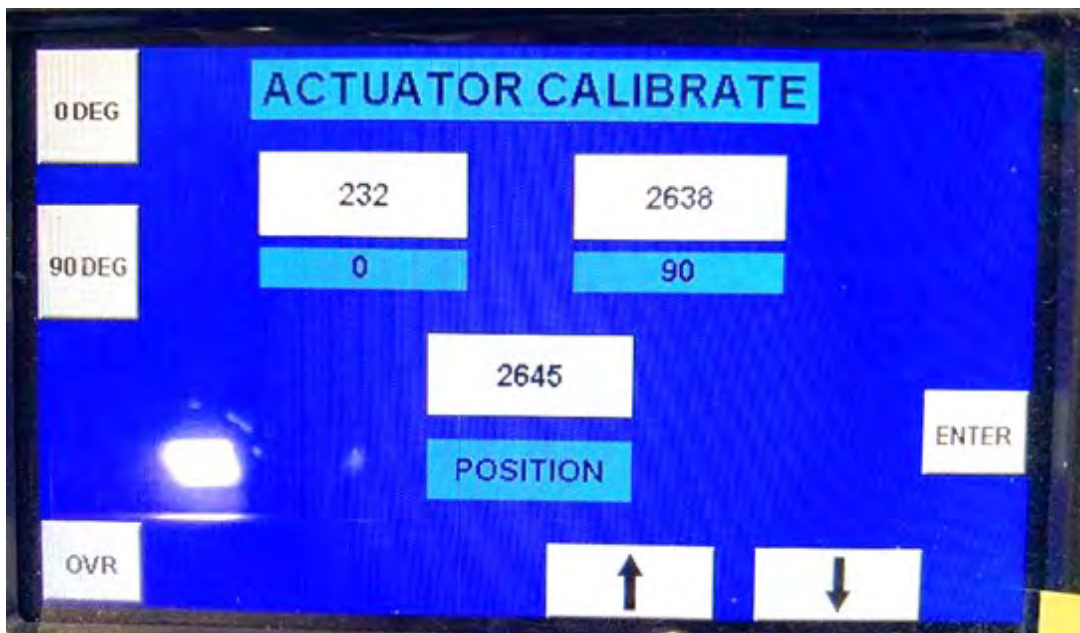

Figure 7-6 Actuator Calibration Screen
3. Press “OK”. The Actuator Calibration screen should now be visible (Figure 7-6).